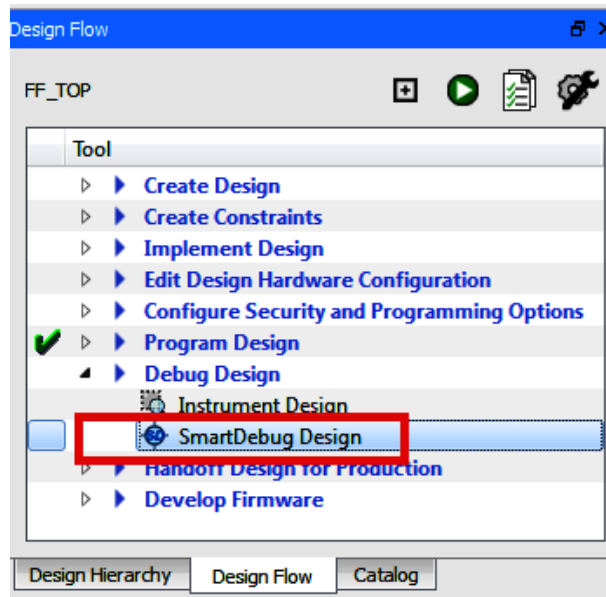

Figure 10 • Launching SmartDebug Design Tools
1. Check the content of the SRAM before entering into the F*F mode. While the device is in Active Mode (non F*F), double-click **SmartDebug Design** entry from the **Design Flow** window as shown in Figure 10.